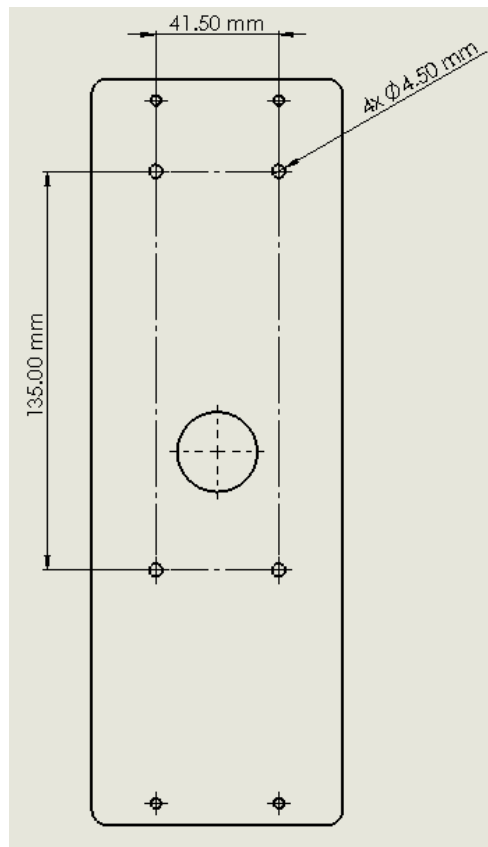

Figure 1: Mounting Plate Hole Pattern and Dimensions
- The stainless-steel plate has four reserved mounting holes for customers' needs. The hole patterns and size are shown below in Figure 1, Mounting Plate Hole Pattern and Dimensions. Mount the stainless-steel sled to the asset with four screws of customer's choice. The customer can choose their own screws to meet the mounting hole specs on the asset.